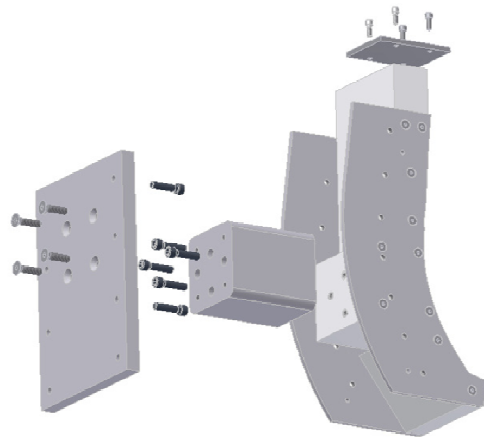

Figure 2 - Jacket Core Assembly
- Install jacket onto core for impact test. Figure 2 illustrates the core assembly.